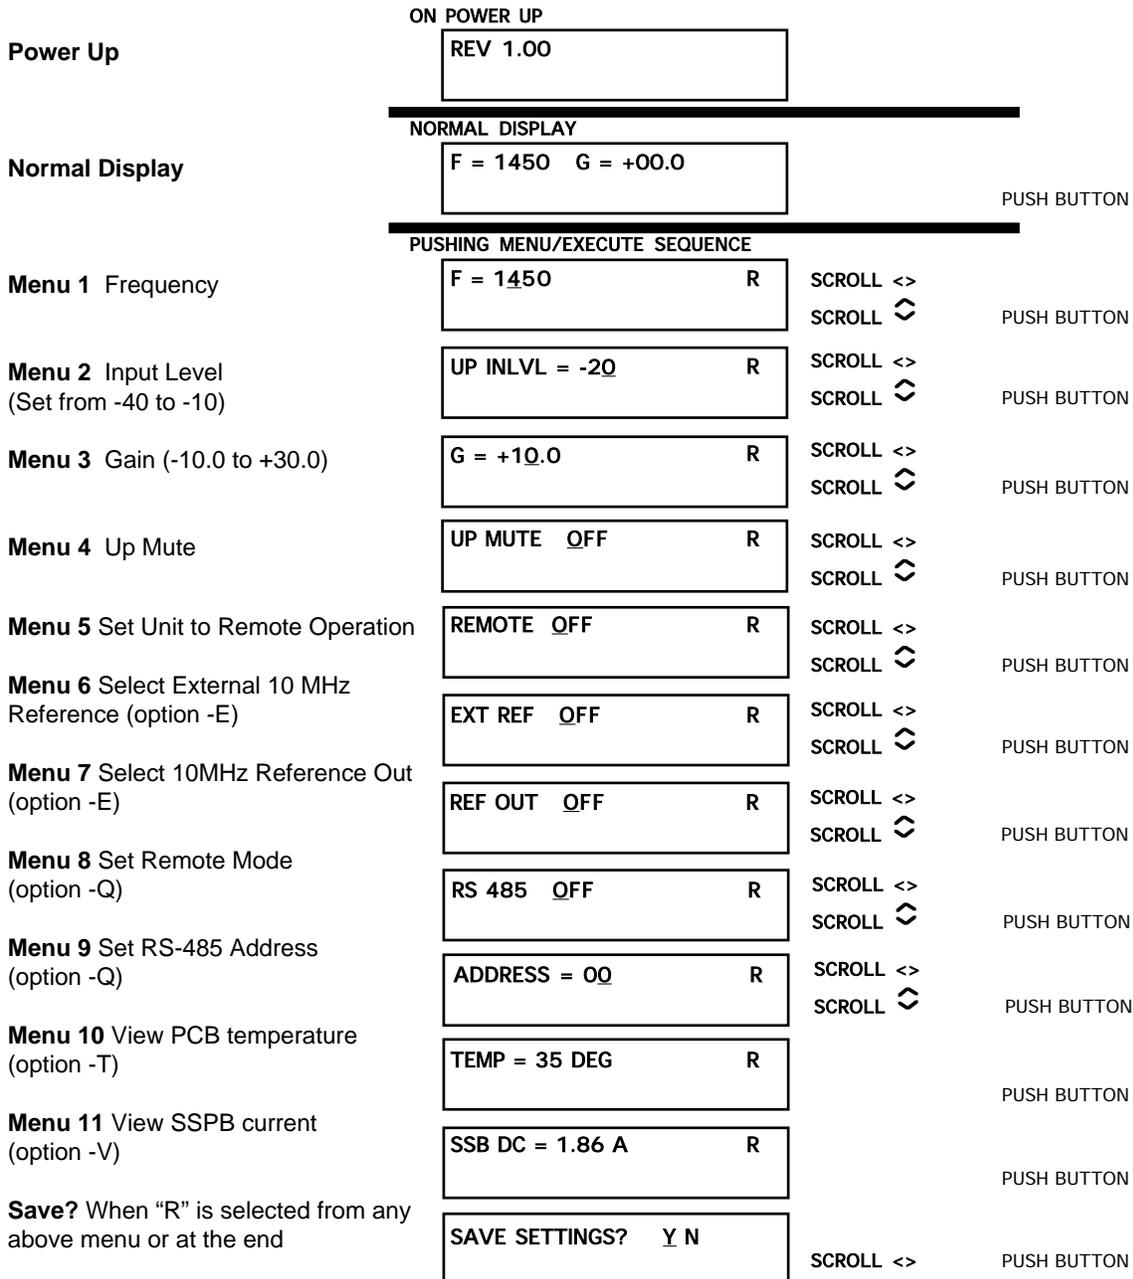

FIGURE 2.4 Menu Display and Sequences
2.5.1 Functions - This section describes operation of the front panel controls. There are three operator switches, the LCD display and alarm indicator LEDs. All functions for the equipment are controlled by these components. The functions are (see Figure 2.4):
Operate the Menu/Execute switch until you get to the menu item you want to change see Figure 2.4 for the sequence of menu options. The following display is for changing the Upconverter frequency:
Figure 2.4 gives the menu items and how to make changes